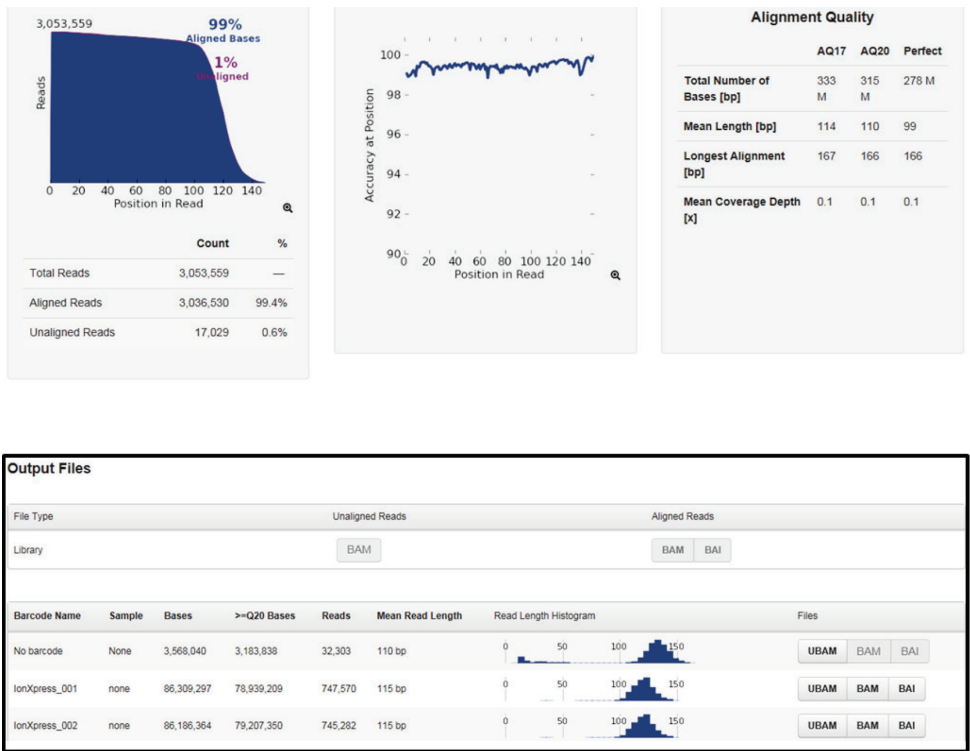

Figure 10. Torrent Browser report page and output files.
1. Upon completion of the sequencing run, navigate to the report page on the Torrent Browser. Locate the “Output Files” section near the end of the report (Figure 10).